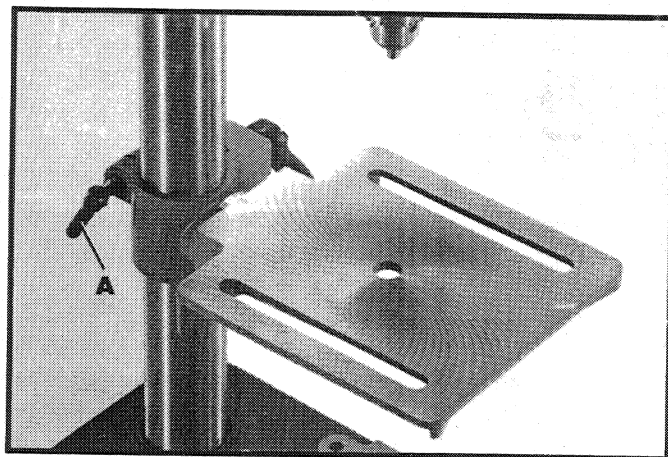
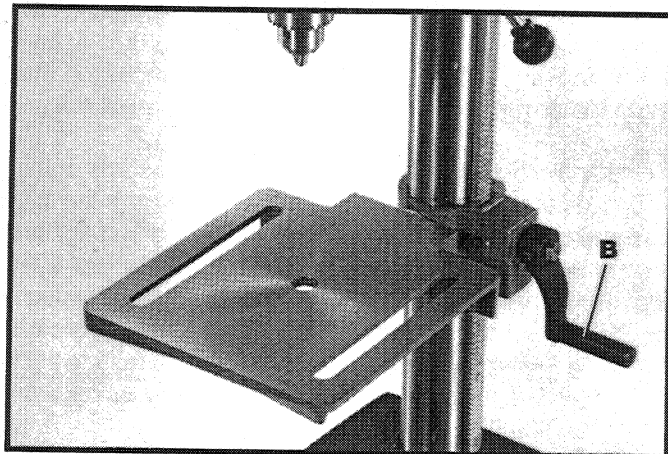

Fig. 29
Fig. 30
1. The table can be raised or lowered on the drill press column by loosening the table clamp handle (A) Fig. 29, and turning the table raising and lowering handle (B) Fig. 30. After the table is at the desired height, tighten handle (A) Fig. 29. **NOTE:** Final positioning of the drill press table should always be from the bottom to the up position.
2. The table can be rotated 360 degrees on the column by loosening clamp handle (A) Fig. 29, rotate table to desired position and tighten clamp handle (A).